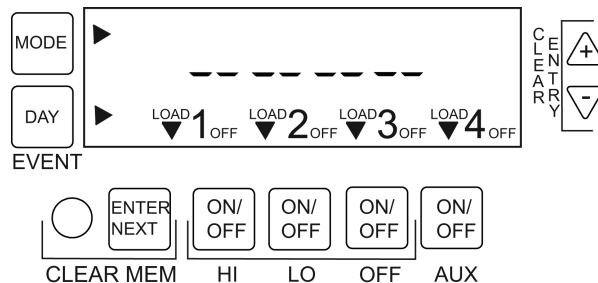

Figure 4 Initial screen after power up
1. Turn the controller ON. Hyphens appear on the screen as shown in Figure 4.